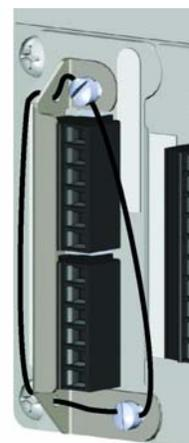

Figure 2-27. Option Card Seal
3. Insert the lead wire seal through the holes in the sealing bracket and the large fillister screws as shown in Figure 2-27.